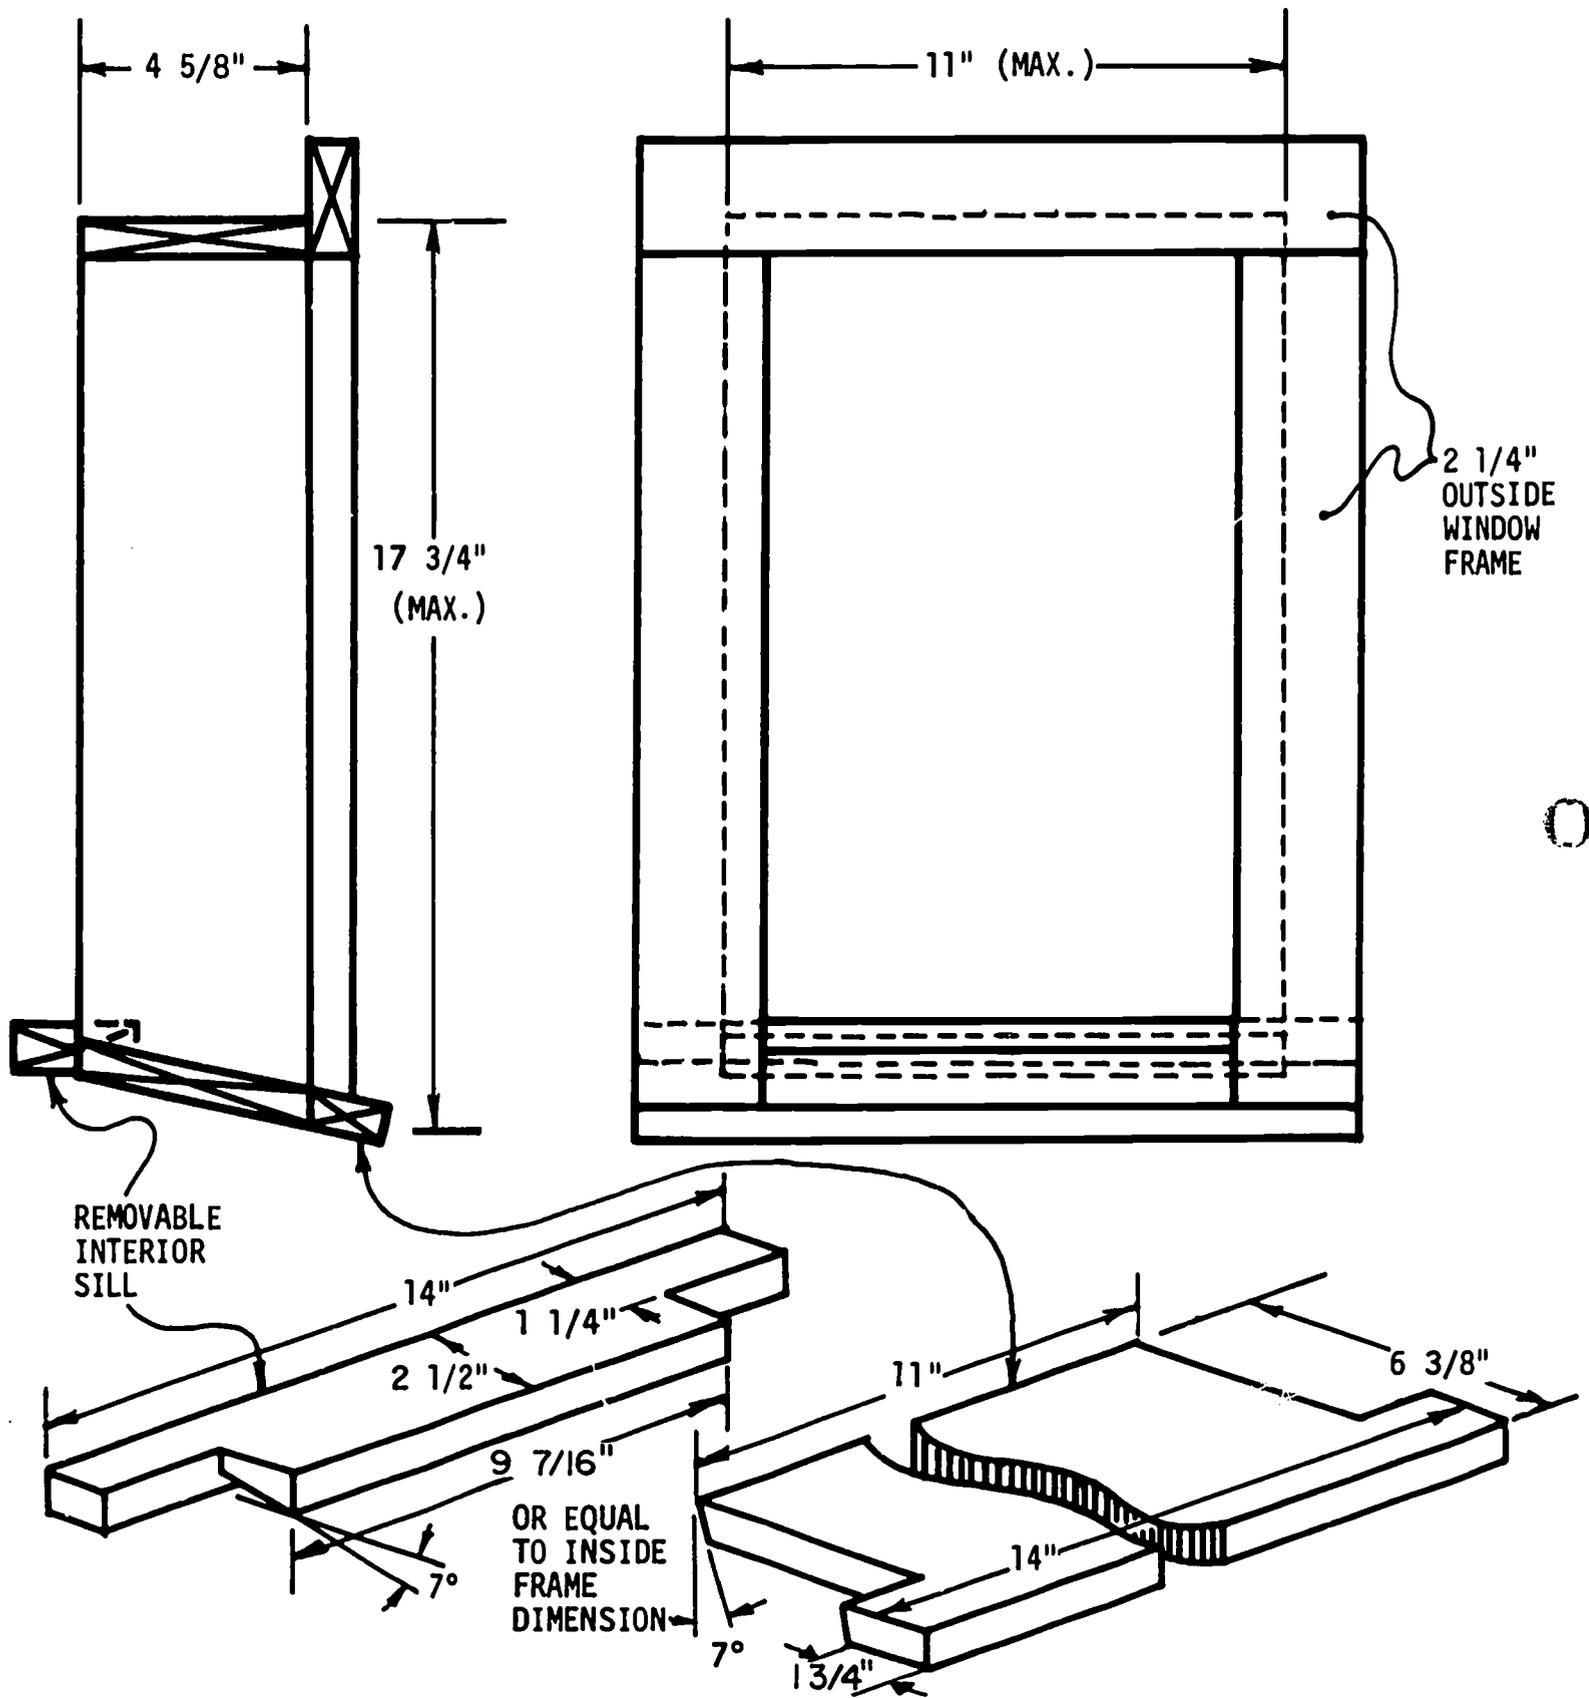

Fig. 108-1. Window Unit (a Manufactured Product to Be Salvaged as a Unit for Reuse)
1. Divide each group so that three students apply shingles (Problem 1) and two students build window frames (Problem 2). See Fig. 108-1.